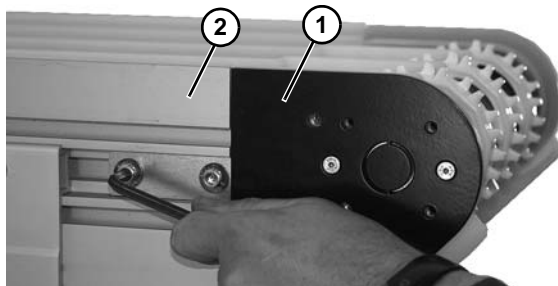

Figure 60
*When reinstalling the drive spindle tail assembly, the drive tail assembly (**Figure 60, item 1**) should mate flush with the conveyor frame (**Figure 60, item 2**).*